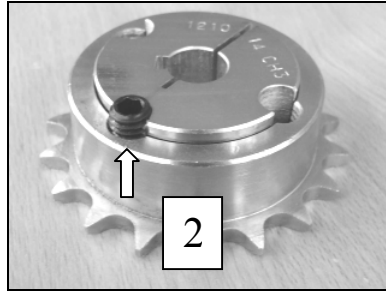

Fig. 90
- Tighten one screw into the thread to release the clamping sleeve 2 (Fig. 90)